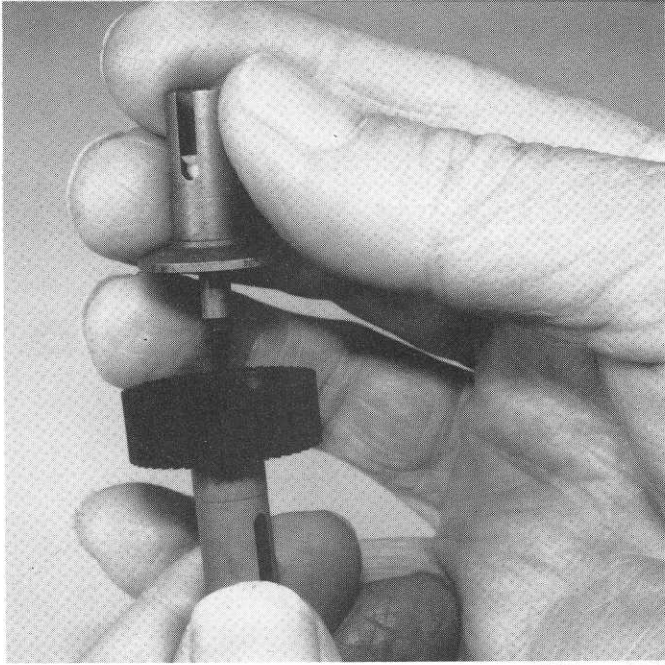

Fig. 53
□ **Figs. 53 & 54** Slip the #6577 left hand hub down onto the bolt, making sure the hub centers itself onto the drive rings. THIS IS IMPORTANT.